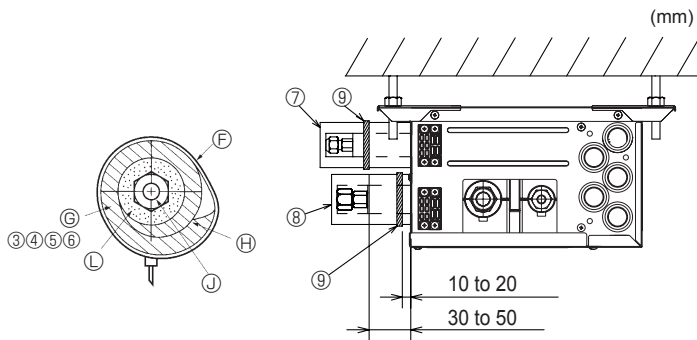
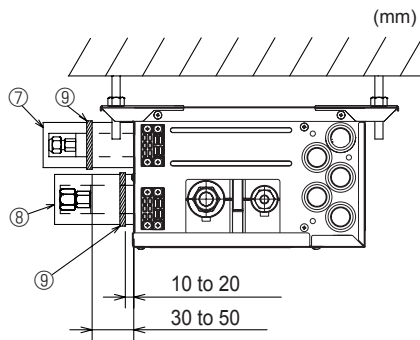

Fig. 7-3
Fig. 7-4
- (1) Remove the flared nuts and caps from the branch box.
- (2) Flare the ends of the liquid and gas piping, and apply refrigeration oil (procure locally) to the flared seat. Do not apply oil to the threaded portion.
- (3) Connect the refrigerant piping immediately. Always tighten the flared nuts to the torque specified in the table 2 using a torque wrench and double spanner.
- (4) Press the pipe covers ③ and ⑤ on the liquid piping against the unit and wrap to hold in place. (Fig. 7-3)
- (5) Press the pipe covers ④ and ⑥ on the gas piping against the unit and wrap to hold in place. (Fig. 7-3)
- (6) Apply the supplied bands ⑨ at a position 10 - 20 mm from each end of the pipe covers (③④⑤⑥).
- (7) If the indoor unit is not connected, fit the supplied pipe covers (with caps, ⑦ and ⑧) to the branch box refrigerant piping connections against the unit to prevent condensation dripping from the pipes. (Fig. 7-4)
- (8) Clamp the pipe covers (⑦⑧) in place with the supplied bands ⑨.
① Flare cutting dimensions
- ⓕ Band ⑨
- ⓖ Pipe covers ③④⑤⑥
► Use the following procedures for indoor connection part which indoor unit is not connected. (Fig. 7-4)
- (1) In order to prevent refrigerant leaks, make sure that the flare nuts are tightened according to the specified torques* in Table 3.
- (2) In order to prevent condensation, install the pipe covers ⑦ ⑧ against the unit and fasten them with the supplied bands ⑨.